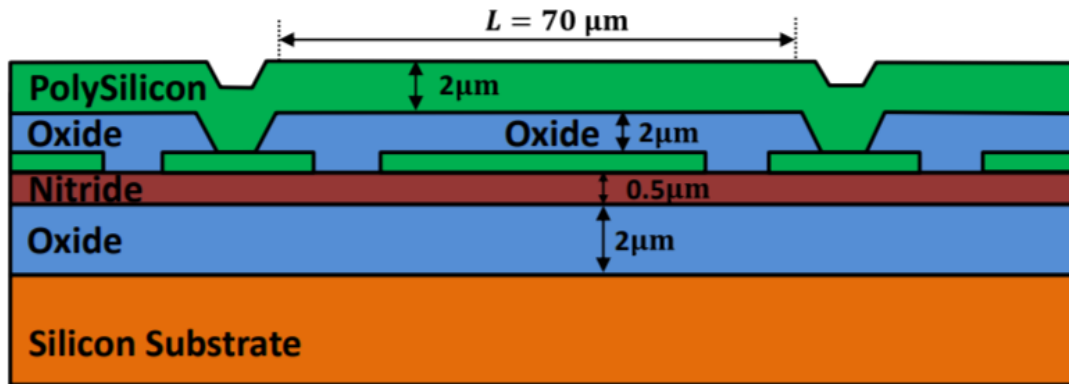

Fig PS2.2-1
3. Figure PS2.2-1 presents a $2\mu\text{m}$ -thick polysilicon film atop a $2\mu\text{m}$ -thick sacrificial oxide film. The polysilicon beam is initially uniformly doped with phosphorous to a concentration $N_D = 1 \times 10^{15} \text{ cm}^{-3}$. Suppose you want to make the beam more conductive by diffusing boron atoms into the n-type polysilicon material. To do so, you first place the wafer into a predeposition furnace alongside solid-source boron wafers for 40 min at 1000°C . You then drive in the dopants (with no boron source) for 50 min at the same temperature.